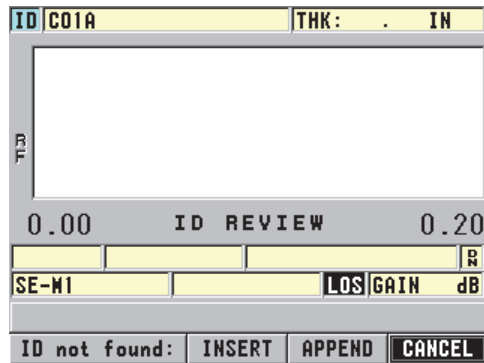

Figure 6-38 The message when the edited ID is not in the database
- When the edited ID is not in the database, the help text bar message shown in Figure 6-38 on page 119 appears. Select **INSERT** to insert the new ID in front of the active ID.